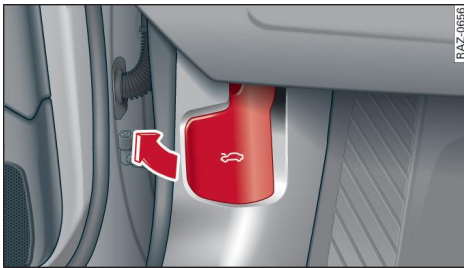

Fig. 154 Footwell: Release lever
- ▶ With the door open, pull the lever ⤵¹⁾ under the dashboard in the direction indicated by the arrow ⇒ Fig. 154.